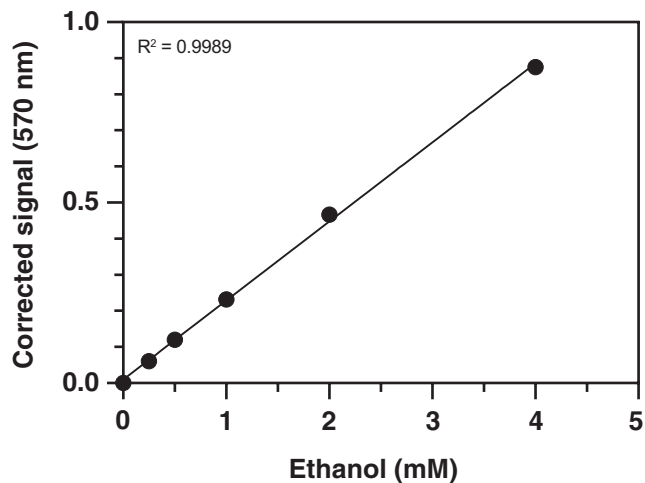

Figure 4. Ethanol standard curve
2. Subtract the average absorbance value of the zero-point standard (S_6) from itself and all other standards and samples to obtain corrected signal (CS) values.
3. Plot the CS values of each standard as a function of the ethanol concentration of the standard. See Figure 4, on page 16, for a typical standard curve.